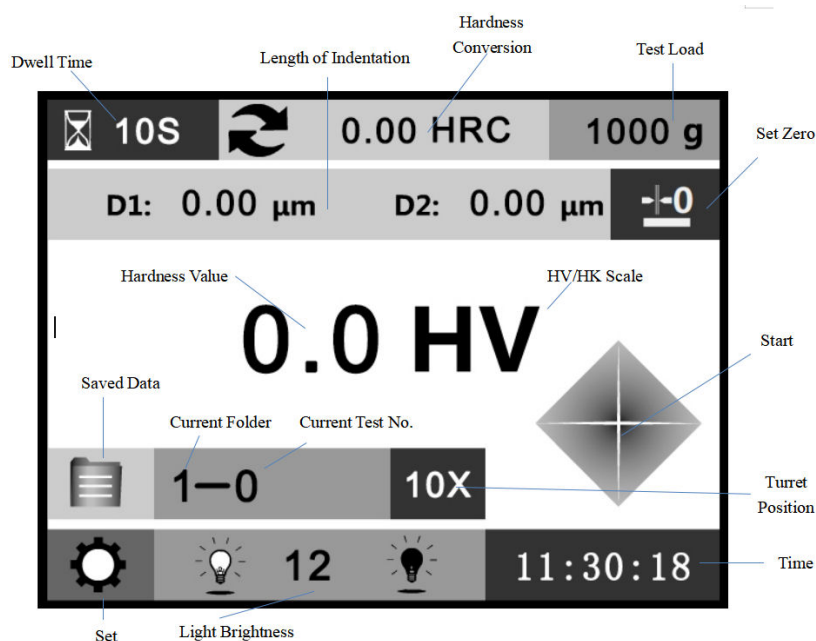

Fig.4
5.7 Function of Each Key (Fig.4)
6.2 Turn on the Power Switch. The screen lights and shows the main page (Fig.4). You can directly press each key to select "Test Scale, Dwell Time, Light, Conversion Scale, Time".